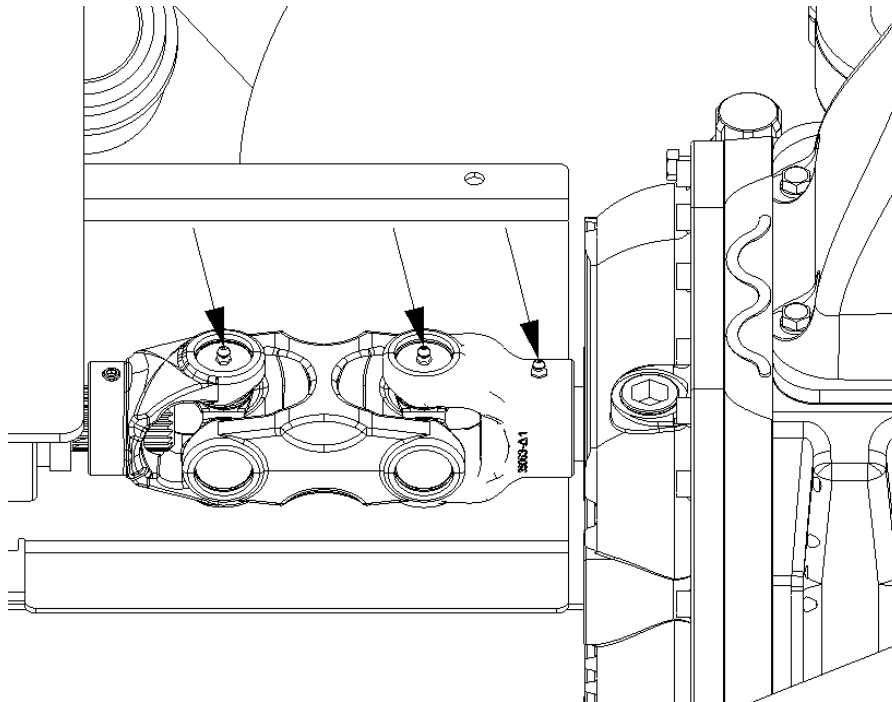

Figure 7-20: Blower drive shaft lubrication locations
7. Lubricate the blower drive shaft in the three locations shown in **Figure 7-20**.